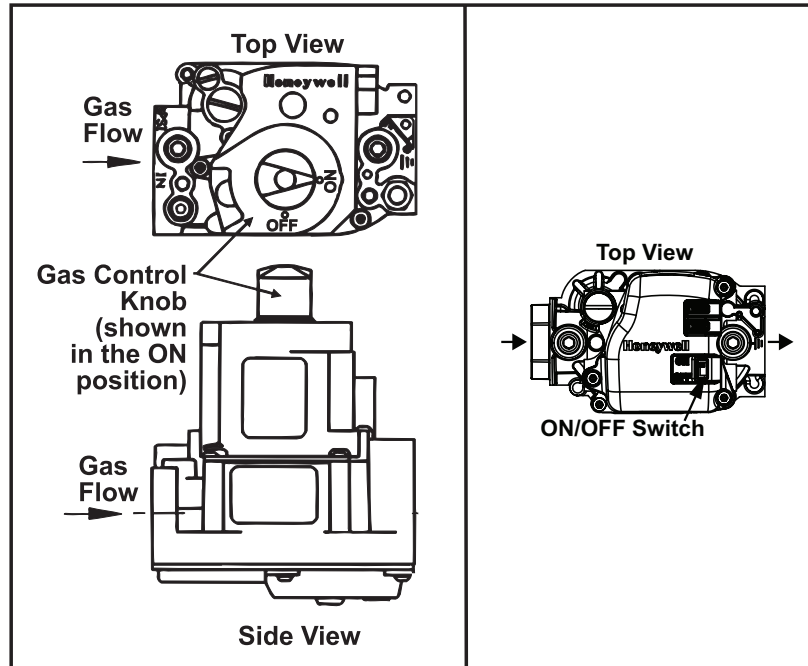

Figure 19. Gas Valve ON/OFF Control
3. Open access door and locate gas control (ON/OFF) knob or switch on gas valve (see Figure 19).